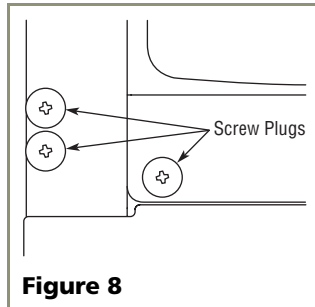

Figure 8
2. Remove metal hinge screw plugs (3 each, top and bottom) from new hinge location. Do not discard (see **Figure 8**).